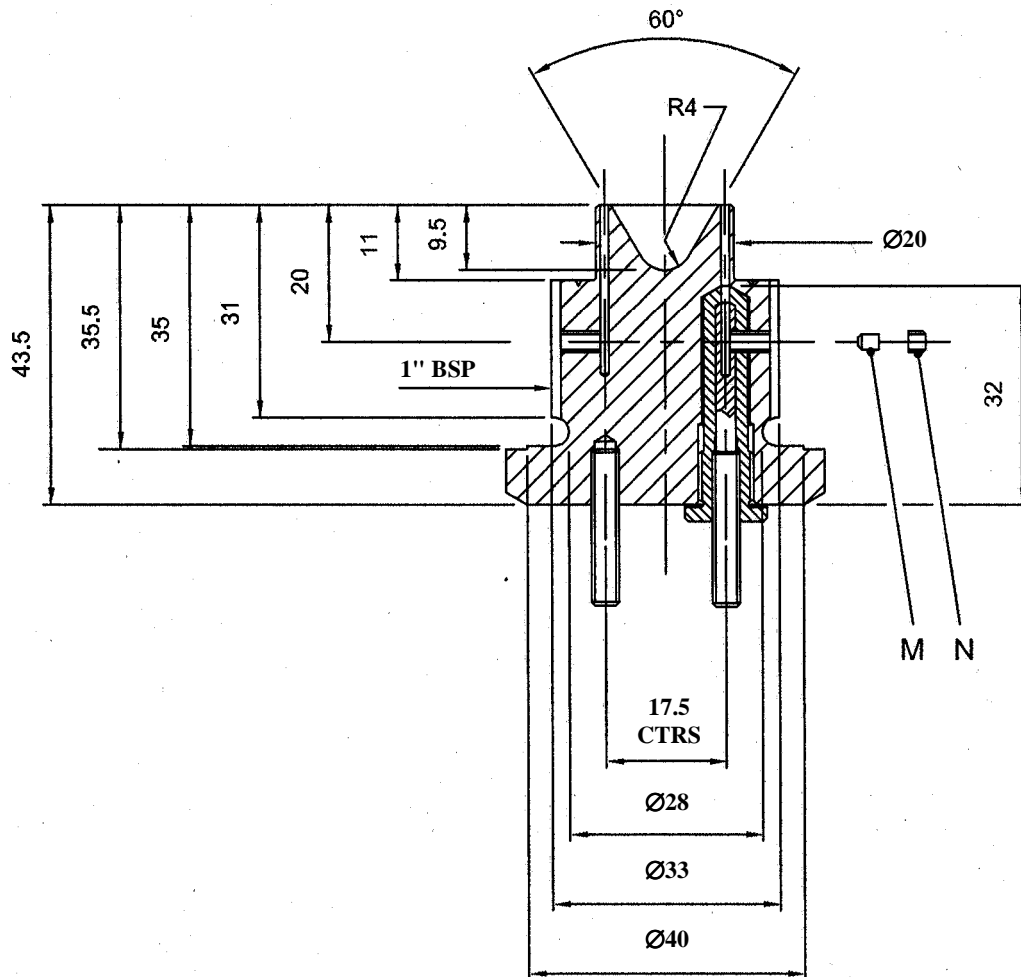

Figure A7.8: ASSEMBLED CONE IN PLUG
15. Page 23, before existing Figure A7.8
Insert a new Figure A7.8 reading
16. Page 23, existing Figure A7.8